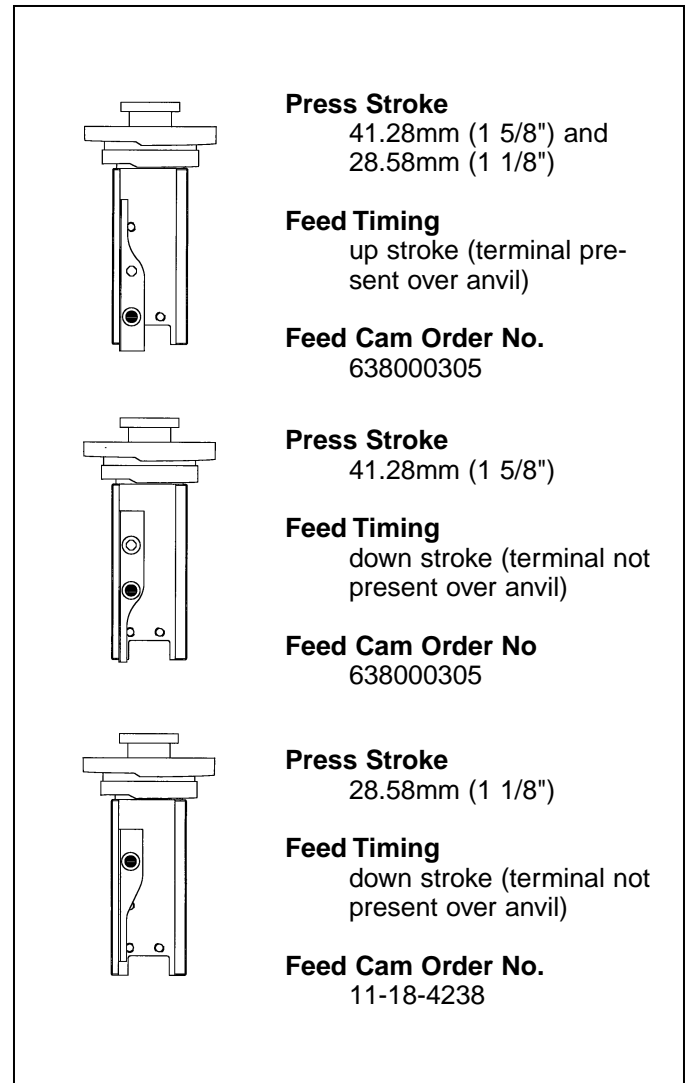

Figure 2.3.4.2 Mounting Positions for the Feed Stroke Cam
2.3.4.2 Determine the desired feed timing. Typically when the applicator is mounted in a wire processing machine, the feed stroke cam should be assembled in the down stroke position. While the press is idle in the up position, a terminal will not be present over the anvil. For most bench applications, the cam is installed in the up stroke position. This will leave a terminal over the anvil when the press is idle in the up position. (Refer to Fig. 2.3.4.2 Mounting Positions for the Feed Stroke Cam)
- 2.3.4.7 Position the cam in the desired position for feeding and attach with the M4 screw. (Refer to Fig. 2.3.4.2 Mounting Positions for the Feed Stroke Cam)